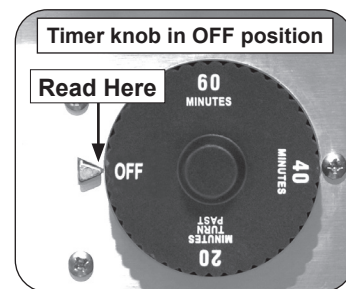

Fig. 33-3 Timer dial
**Important:** When using the timer for periods of less than twenty minutes (to activate), then return (counter-clockwise) to the desired amount of time. This will ensure proper timer operation. See Fig. 33-3.